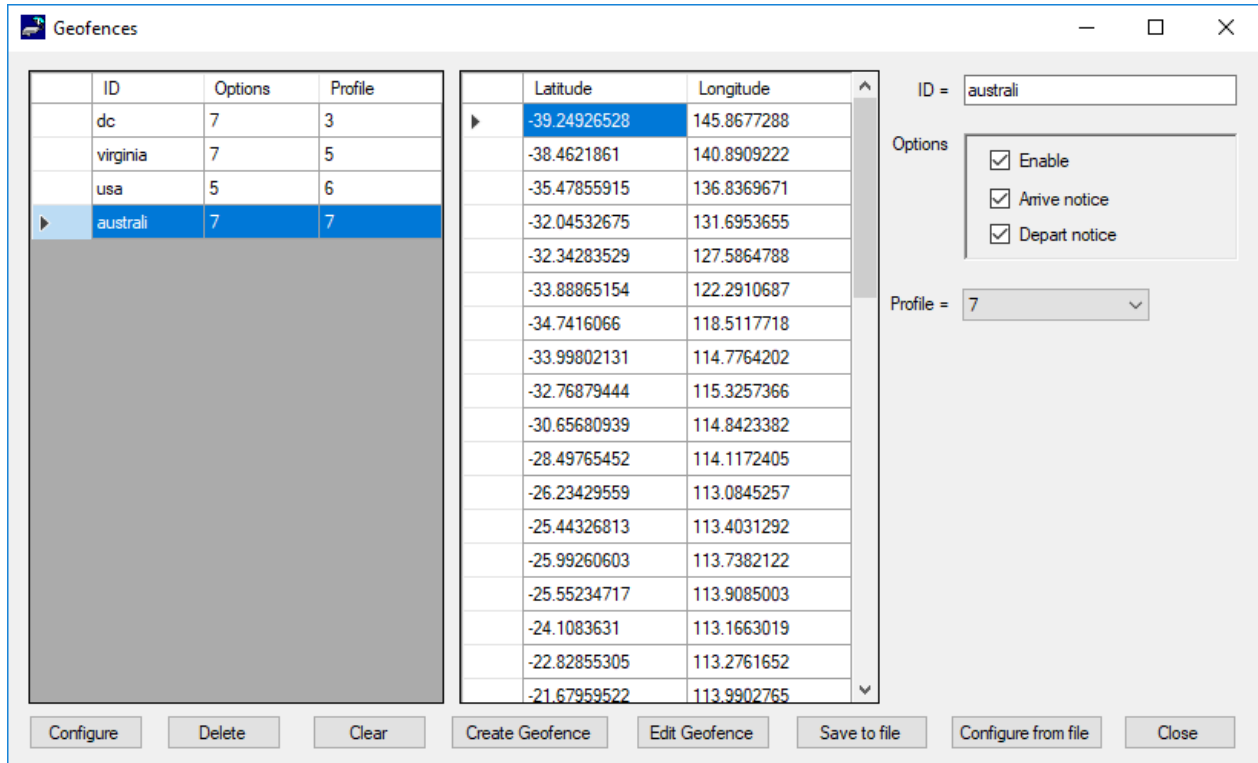

Figure 22: Geofences Window
A geofence forms-based GUI configuration tool is available using SatTerm. To configure geofences with SatTerm, select **Options > Geofences** (see **Figure 8**); the *Geofences* window shown in **Figure 22** appears. Note that the visual map-based geofence options *Create Geofence* and *Edit Geofence* utilize Google Maps, so an internet connection is required for a map to appear.
- **Edit Geofence:** Opens a window to edit the coordinates of the selected geofence. The window is the same as *Create Geofence* with the same functionality, but it opens prepopulated with coordinates, as shown in **Figure 22**.